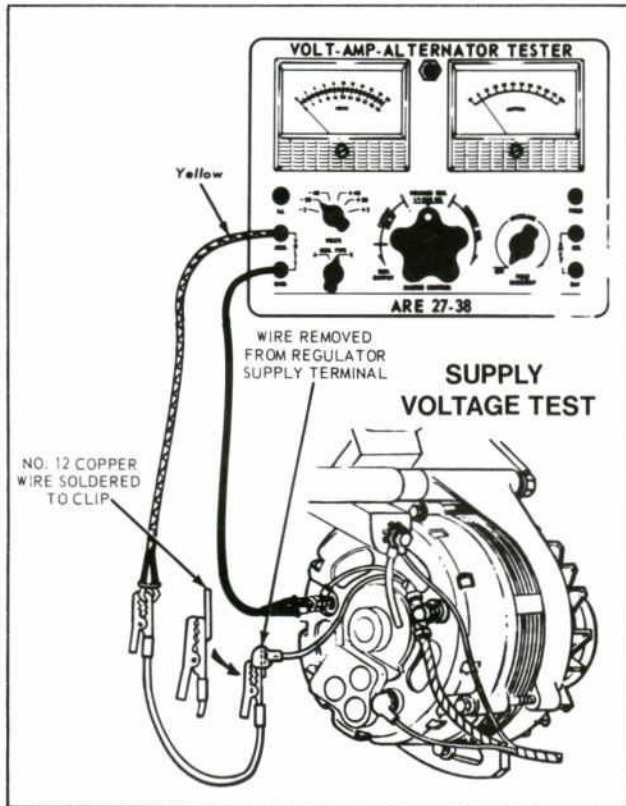

Figure 4—Supply Voltage Test
1. Connect a 12-volt test light or voltmeter between the regulator supply lead and ground (Fig. 4 Supply Voltage Test). Turn the ignition switch to ON. The test light should glow or the voltmeter should show voltage.